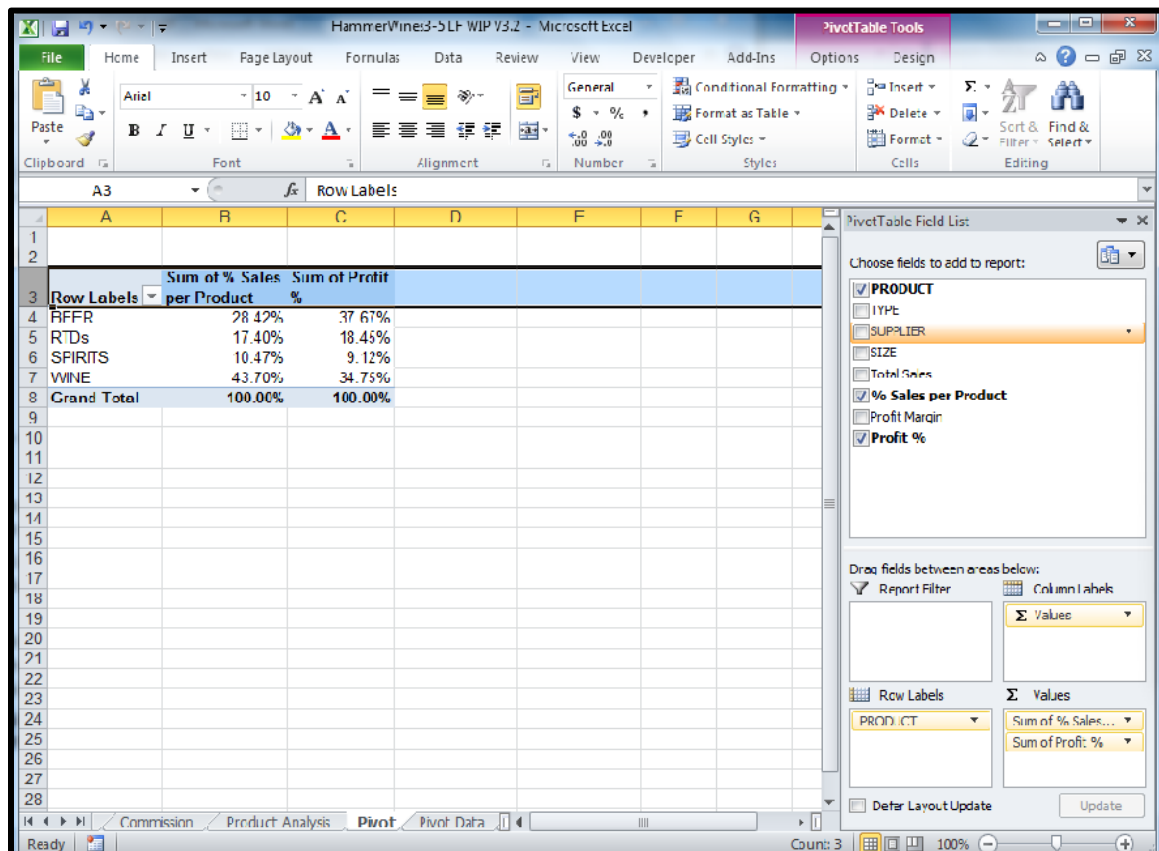

Figure 26 - New layout of Pivot table
- In the **Row Labels**, show only the products. Drag the SUPPLIER field back from the Row Labels area to the Pivot Table Field List OR click on the Field box to deselect. See Figure 26 for the result.